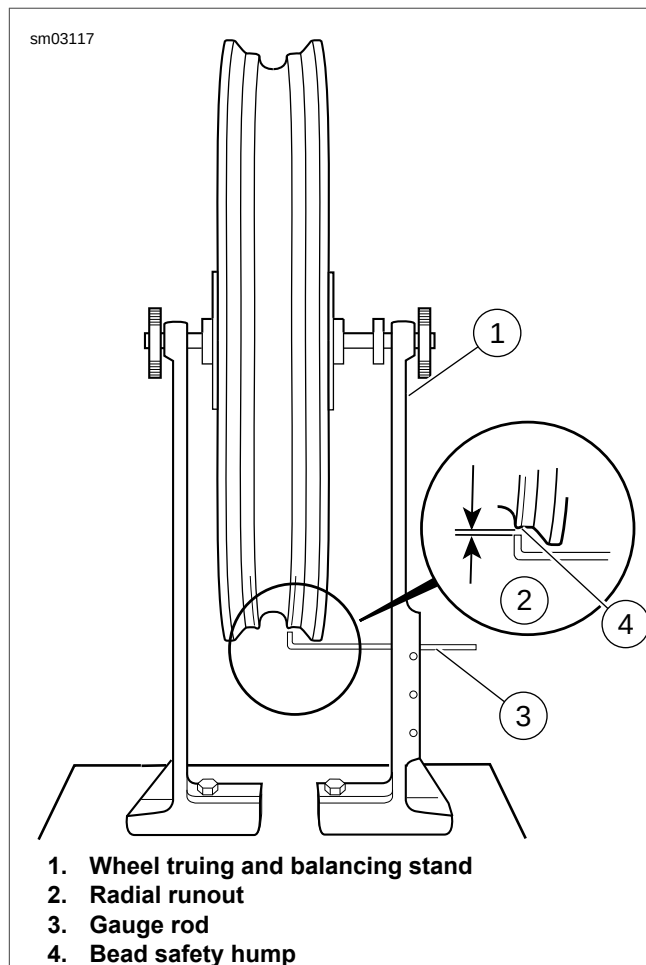

Figure 2-21. Checking Radial Runout
- See Figure 2-21. With the wheel mounted in WHEEL TRUING STAND (Part No. HD-99500-80), adjust the truing stand gauge (3) near to the rim's tire bead safety hump (4). If using a dial indicator, place the tip on the safety bead hump.